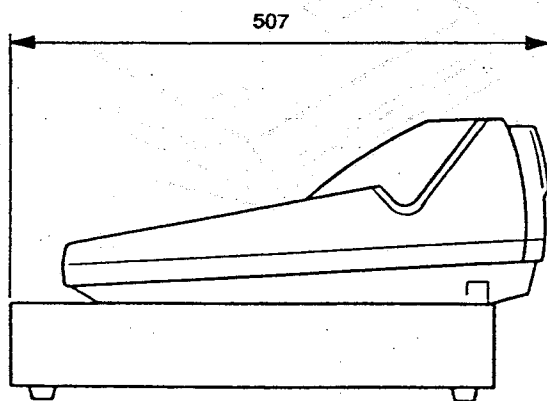

Fig. 14-13
5) With this, the dept changes from 507mm to 460mm which become 47mm shorter (Figs. 14-13 and 14-14).